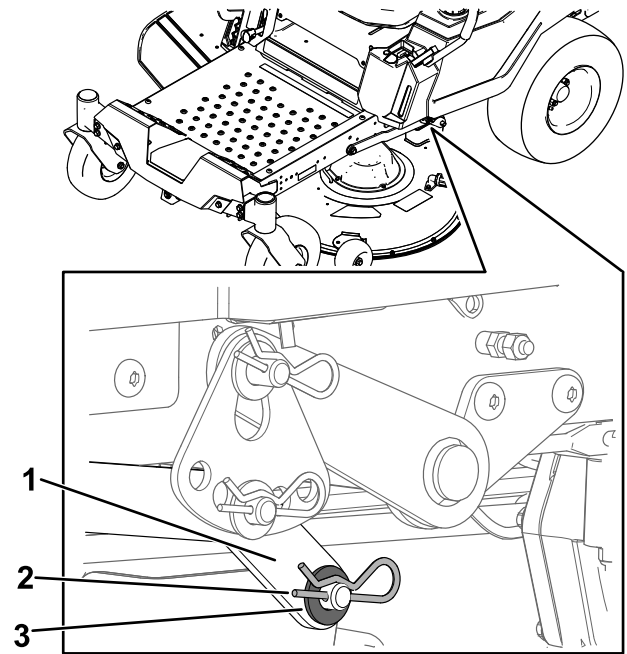

**Figure 67**
- Remove the hairpin cotter from the front support rod, and remove the rod from the deck bracket (Figure 67).
8. Attach the front support rod to the mower deck with the clevis pin and hairpin cotter (Figure 67).